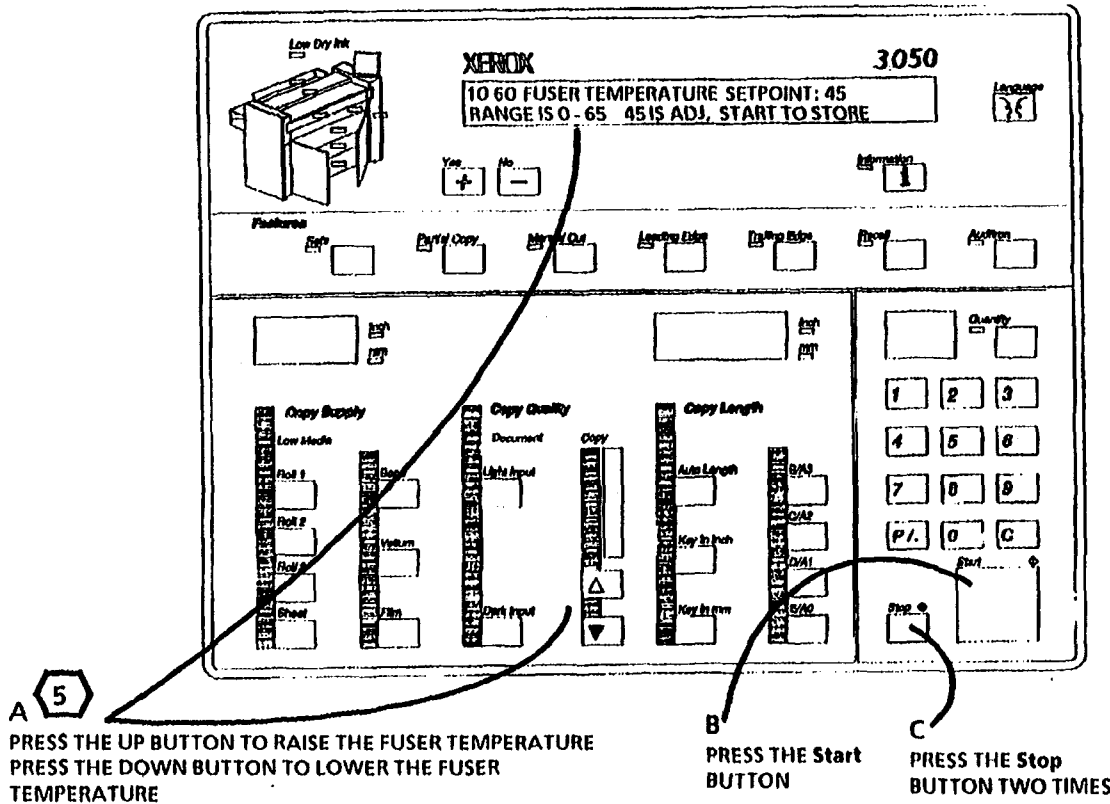

Figure 2. Adjust the fusing temperature
2. (Figure 2): Adjust the fusing temperature.